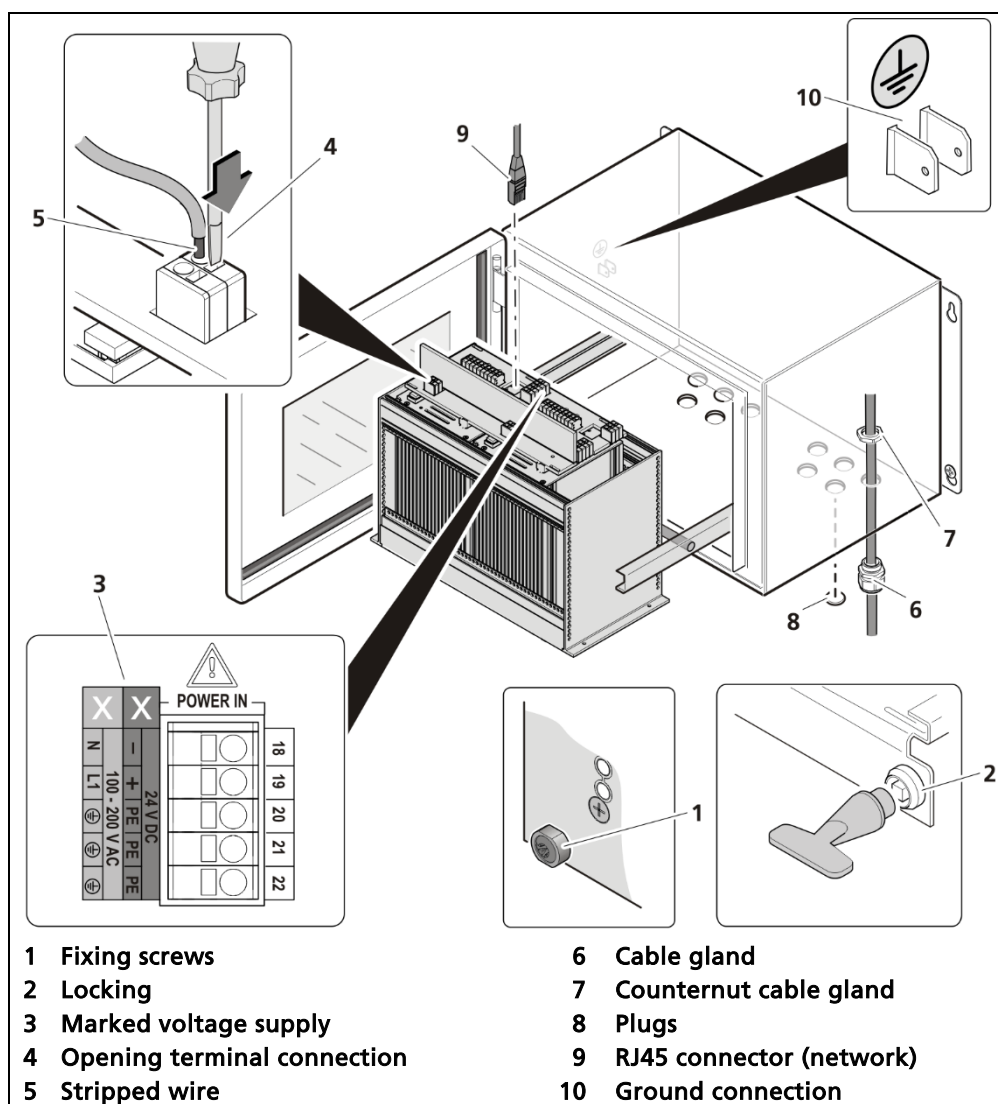

Fig. 20 Electrical connection in the wall housing (Ex.: master-master)
1. Make sure that the fixing screws (Fig. 20, item 1) of all modules are tightened in order to prevent slipping.
2. Loosen the lock (Fig. 20, item 2) using the supplied square key and pull the subrack out.
4. Run the cables through the cable glands (Fig. 20, item 6) through the openings of the wall housing and through the counternut cable glands (Fig. 20, item 7).
5. Screw the the cable glands (Fig. 20, item 6) with the counternut cable glands (Fig. 20, item 7).
Apply the voltage of the specified and marked (Fig. 20, item 3) range only!
7. Open the terminal connection (Fig. 20, item 4) with an operating tool (slotted screwdriver) and insert the stripped wire (min. 8 mm) (Fig. 20, item 5). The terminal connection closes by pulling out the operating tool. The terminal connections are designed for the flexible wires:
8. Plug the network plug into the RJ45 socket (Fig. 20, item 9) (optional).
9. Check the correct connection of the ground connection (Fig. 20, item 10).
10. Tighten all cable glands (Fig. 20, item 6) to ensure optimal sealing and tension relief until the gasket insert closes between screw down nut and cable.